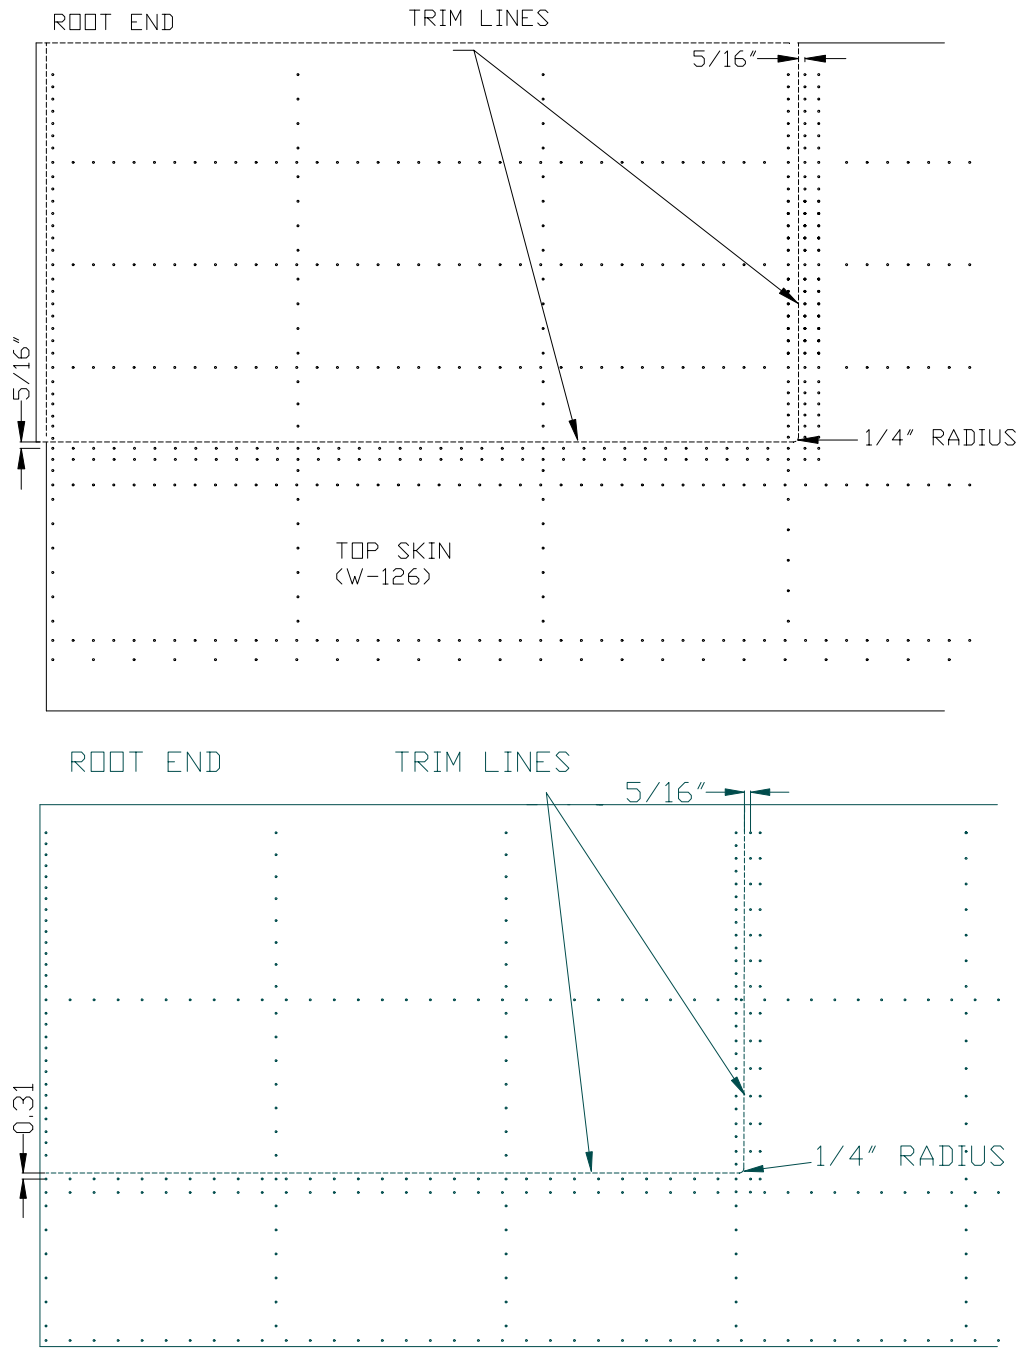

Figure 8.20.4
9) Trim the Top and Bottom Wing Skins as in Figure 8.20.4.